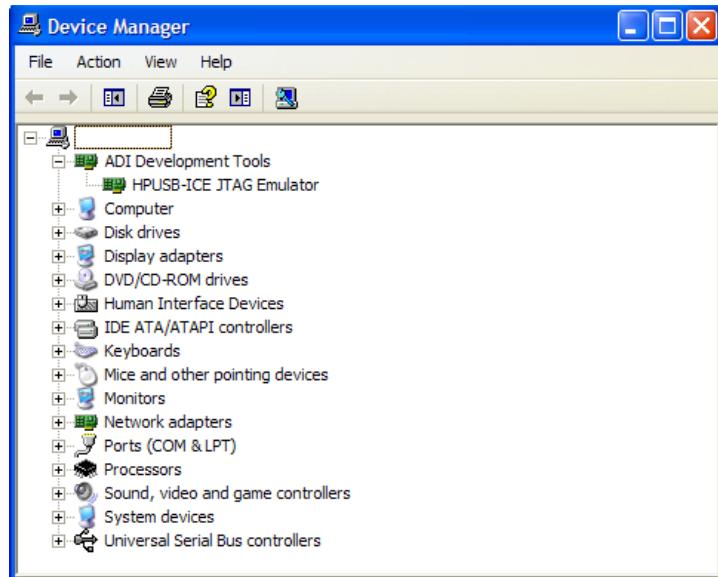

Figure 1-1. Verifying Driver Installation
1. Open the Windows Device Manager and verify that the HPUSB-ICE, HPPCI-ICE or USB-ICE appears under **ADI Development Tools** as shown in Figure 1-1.